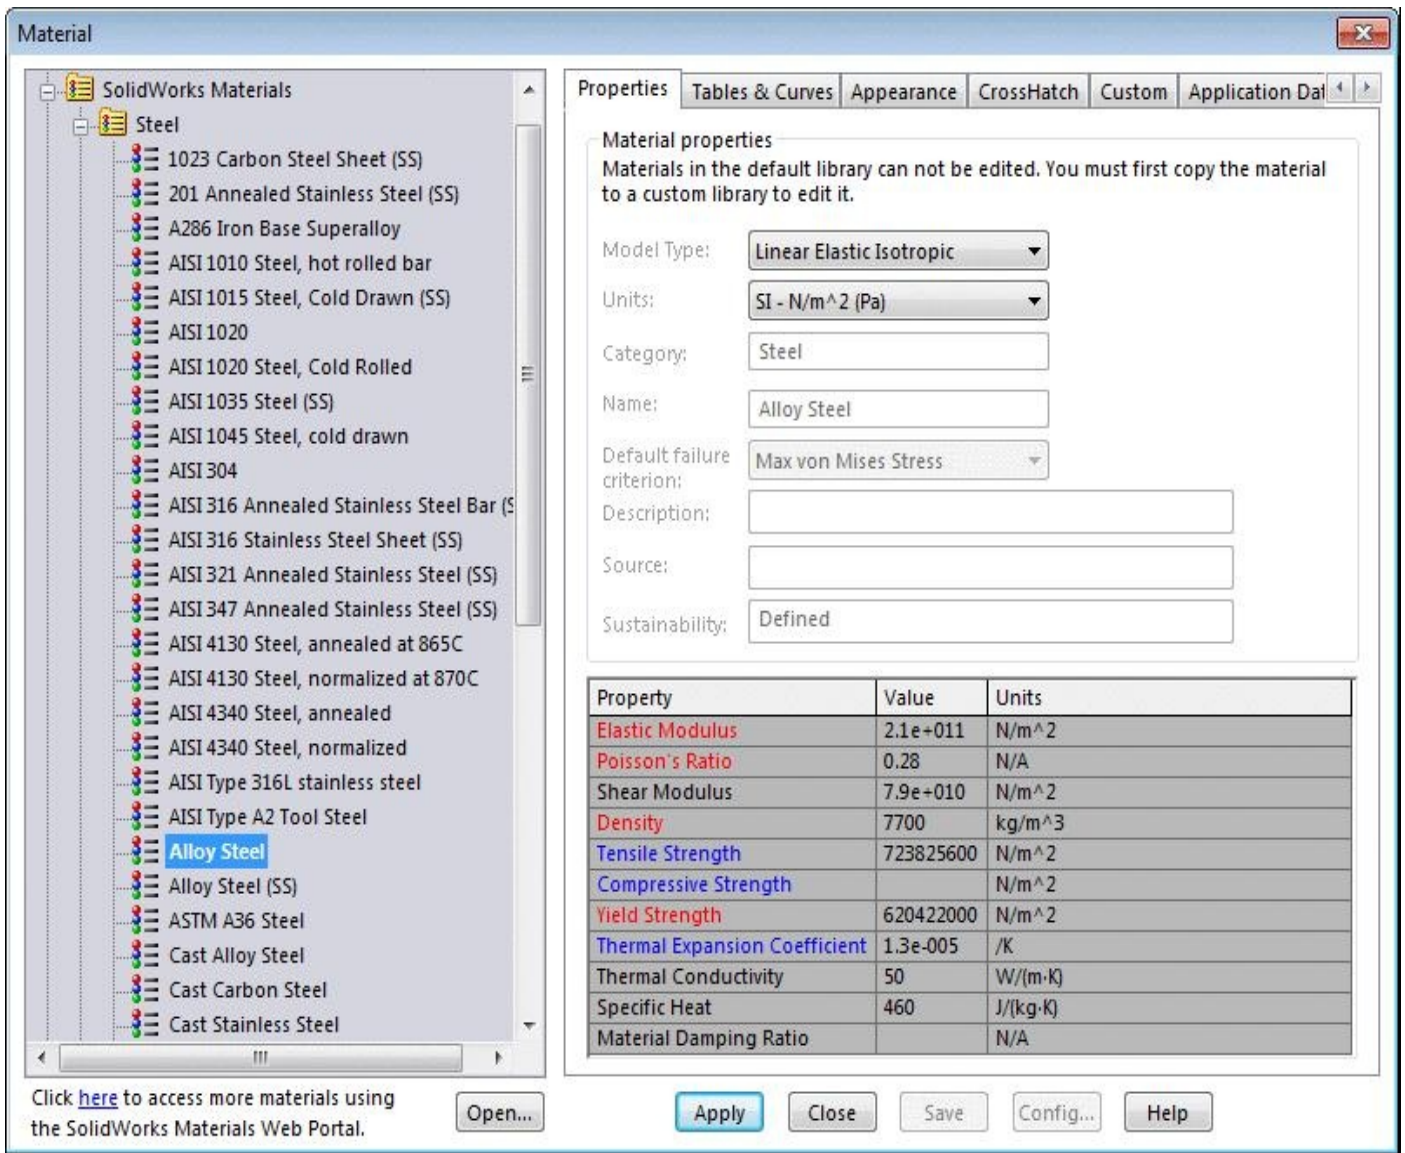

Figure-3. Material dialog box
- Click on the **Apply Material** button from the **PropertyManager**. The **Material** dialog box will be displayed; refer to Figure-3.